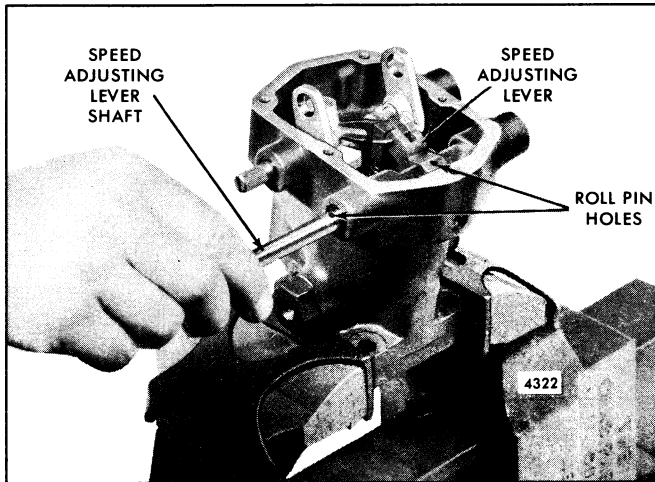

Fig. 17 - Installing Speed Adjusting Lever Shaft in Governor Housing and Adjusting Lever
16. Position the speed shaft oil seal into the governor housing. Refer to Fig. 17 and install the speed adjusting lever shaft in the governor housing and adjusting lever.